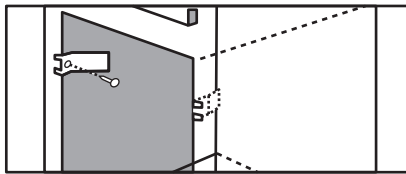

Figure 2
2. Install the Anti-Tip bracket in the cabinet as shown on figure 2. **Note:** To prevent damage to cabinet, it is recommended to drill $\frac{1}{16}$ " (0.16 cm) dia. pilot holes before installing the Anti-Tip brackets.
Place the oven adjacent to the opening on a table or stand. Plug the power supply cord into the electrical outlet. Carefully guide the oven into the prepared opening. Avoid pinching cord between oven and wall (see figure 3). Push the unit in and against the cabinet. The oven side bracket will clip into the Anti-Tip brackets (see figure 2).